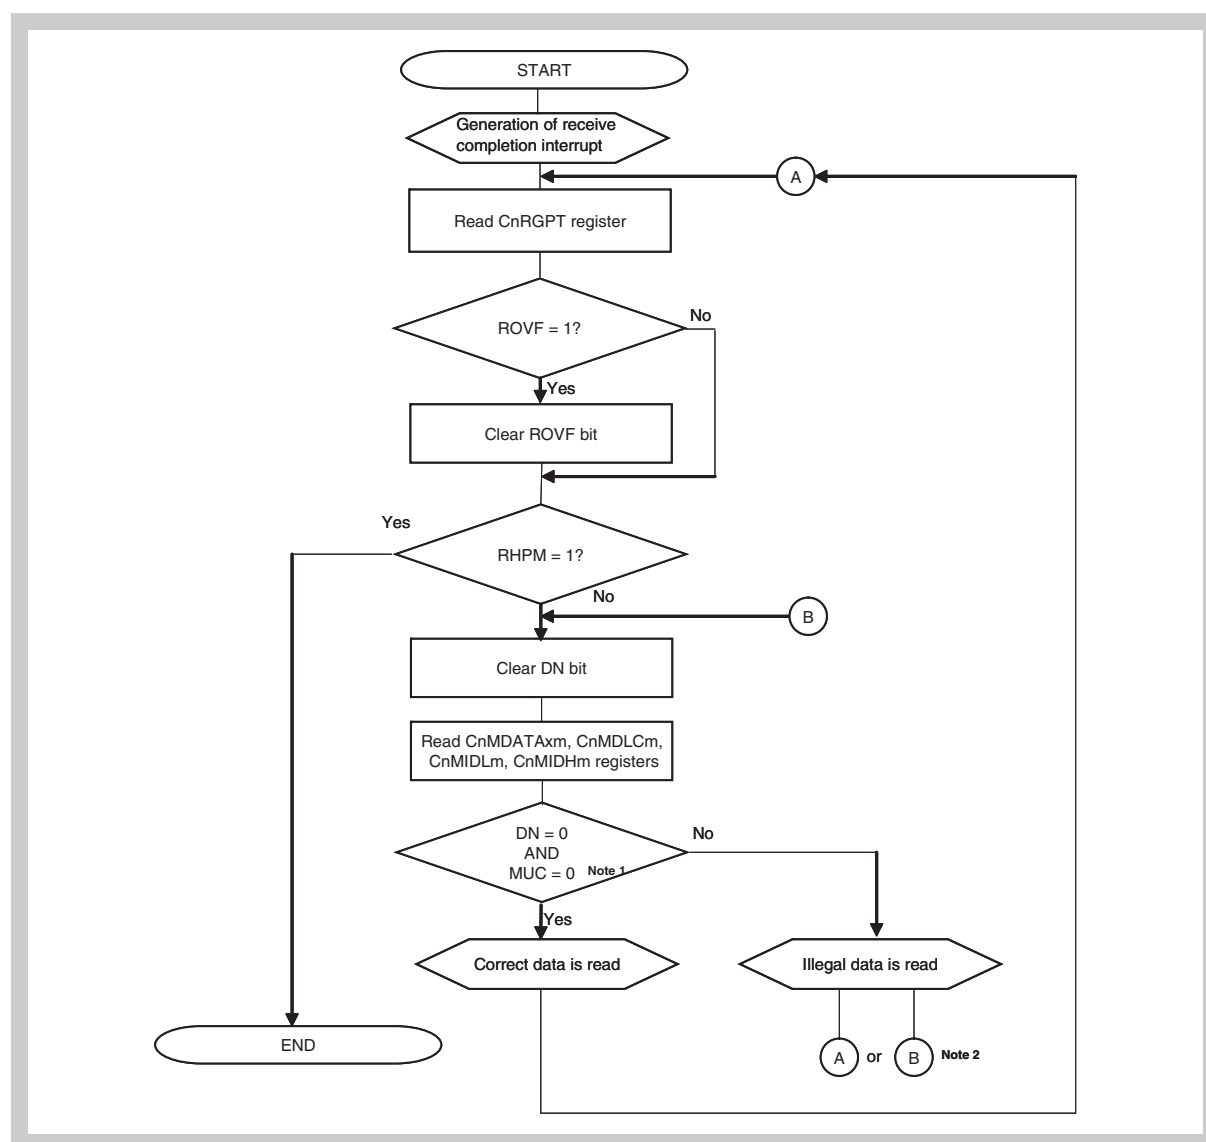

Figure 20-50 Reception via interrupt (using CnRGPT register)
5. It can be used alternatively to *Figure 20-50 on page 806*.